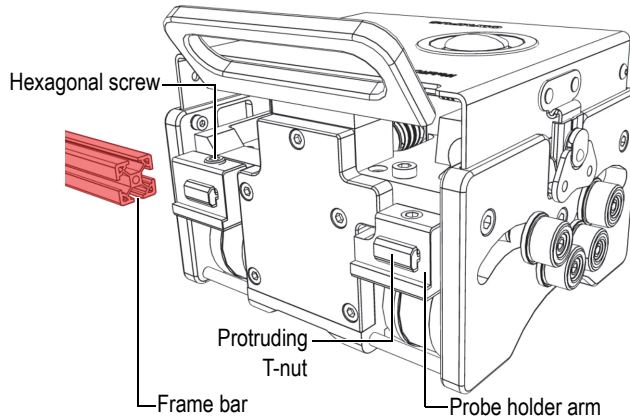

Figure 2-8 WeldROVER—Installing the frame bar
2. Use the supplied hexagonal key to loosen the screws located on each of the probe holder arms (see Figure 2-8 on page 31).
2. Insert the t-nut into the appropriate groove on the frame bar (see Figure 2-8 on page 31).